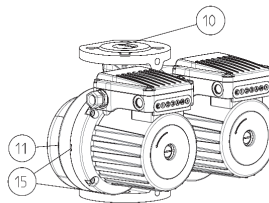

Fig.2
- GHND (basic, auto), GHNDMD (basic, auto) pumps have double hydraulic casing (Fig.2 – POS.11), where a tiltable flap is built-in (Fig.2 – POS.10), tilting automatically, depending on the flow direction of one or another pump.